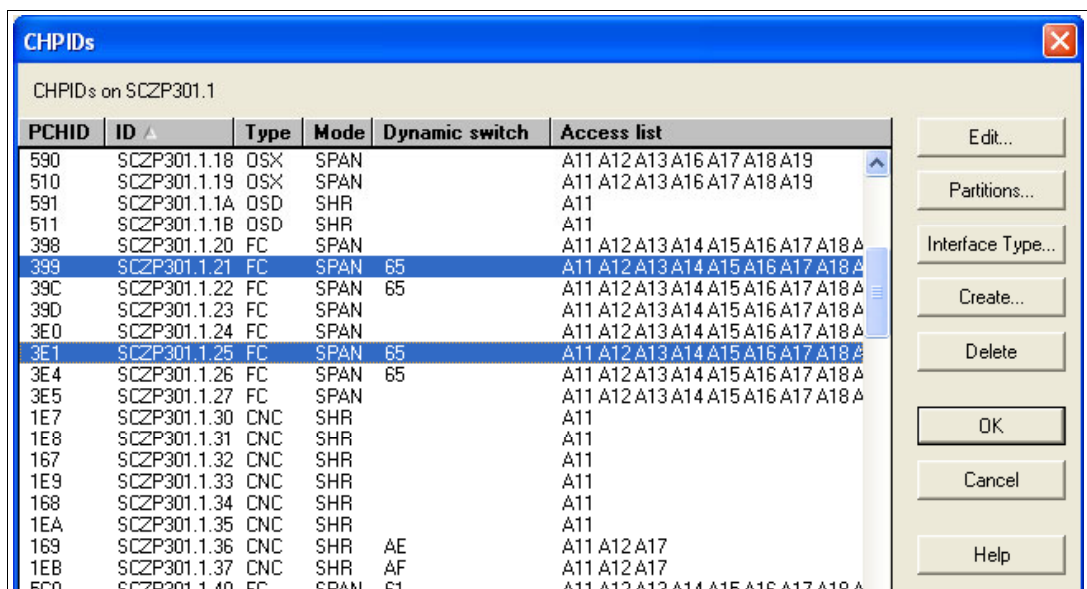

Figure 7-16 HCM Edit CHPIDs
6. Scroll down the list until CHPIDs 21 and CHPIDs 25 are located. See Figure 7-16.